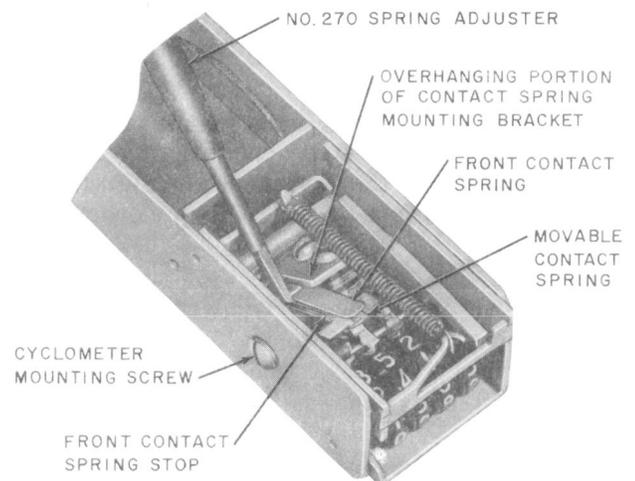

Fig. 13—Method of Adjusting Tension of Front Contact Spring
3.10 *Contact Make:* (Reqt 2.10)—Apply the KS-6015 pliers to the overhanging portion of the contact spring mounting bracket, as shown in Fig. 13, and bend the bracket as follows. If the contacts make before the operating pawl tip engages the top surface of a ratchet tooth, bend the bracket slightly upward. If the contacts make after the pawl tip leaves the top surface of a ratchet tooth, bend the bracket slightly downward. Check that requirement 2.19 is met.
3.11 *Tension of Front Contact Spring:* (Reqt 2.11)—To increase the front contact spring tension, apply the 270 spring adjuster as far back on the spring as possible, as shown in Fig. 13, and bend the spring downward toward its stop. Take care not to tilt the spring. Check that requirement 2.19 is met.
(2) To adjust the operated armature gap (initial design and MOD 1), use the 3-inch C screwdriver to loosen the cyclometer mounting screws (Fig. 13) just enough so that the cyclometer can be moved either toward or away from the core. Then slide the cyclometer away from the core until all the play in the outward direction is taken up. When adjusting a register, insert the 0.010-inch feeler of the KS-6909 gauge between the armature and core. Place the KS-6320 orange stick over the distance rod, and at the middle of the armature, push the armature against the gauge and core. Hold the armature in this position, and tighten the cyclometer mounting screws. When tightening these screws, take up a little on each screw until both are sufficiently tight to secure the cyclometer in place.
(3) If the electrical requirements still are not met, adjust the coil spring tension as covered in (1). If the requirements still cannot be met, replace the coil spring. If this does not correct the condition, replace the register.